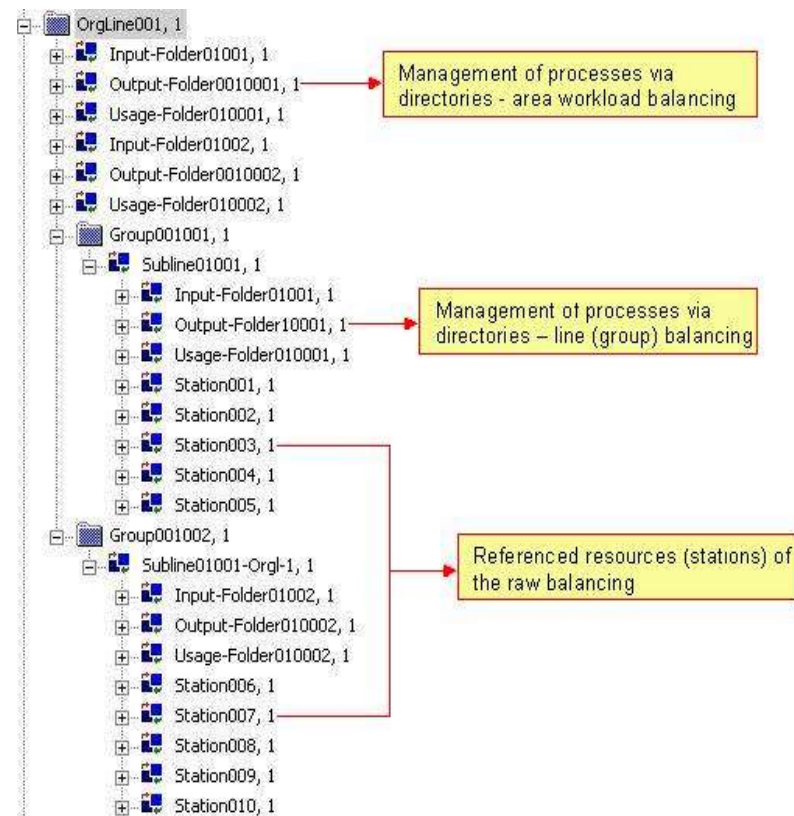

Figure 53: Example of an Organizational Structure
- The organizational structures must be linked to the technical structure of the raw balancing on level 1. *Please refer to the Figure 53.*